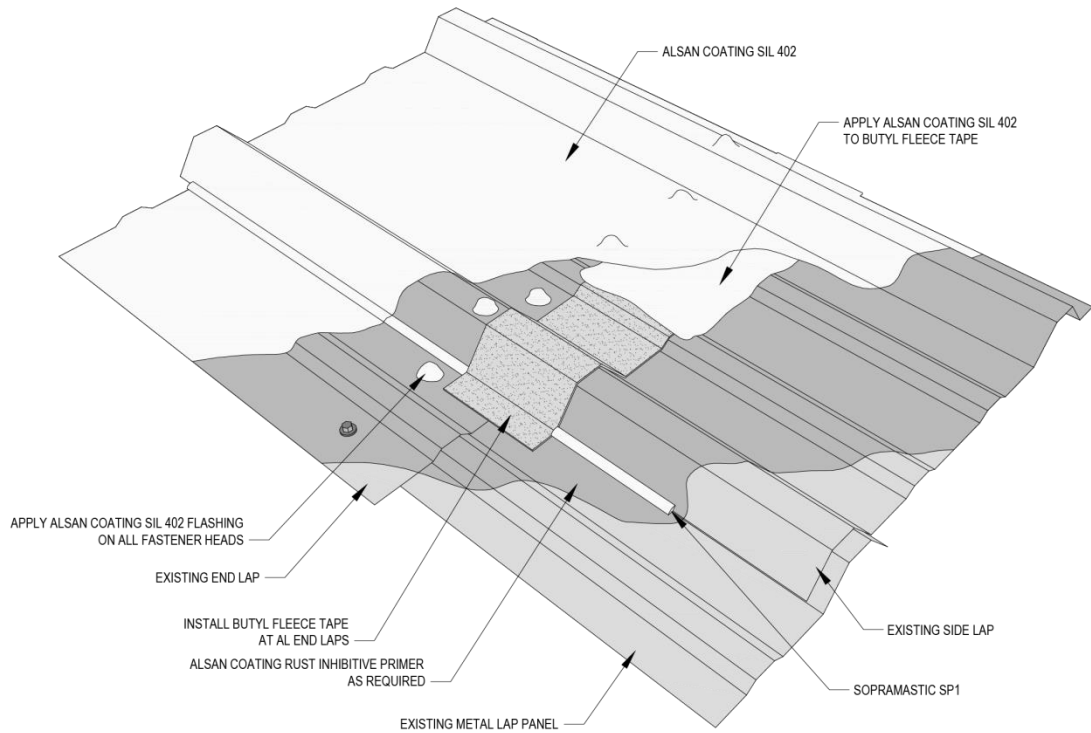

Figure 2.1q Silicone Roof Coating Over Metal Lap Panels, Side/End Laps
- Refer to flashing detail guidelines indicated in Figures 2.1q through 2.1t.